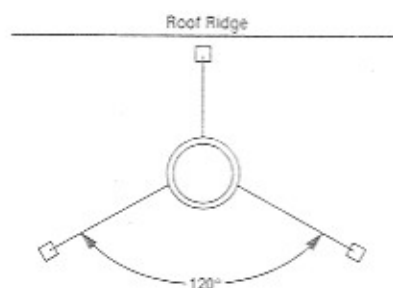

Figure 32
Note: If chimney extends more than 8' (2.4 m) above roof surface, guy wires are also recommended. Use three (3) guy wires, attach to locking band assembly, extend and secure to roof in a triangular pattern (Figure 32). Guy wires are not supplied by Superior.